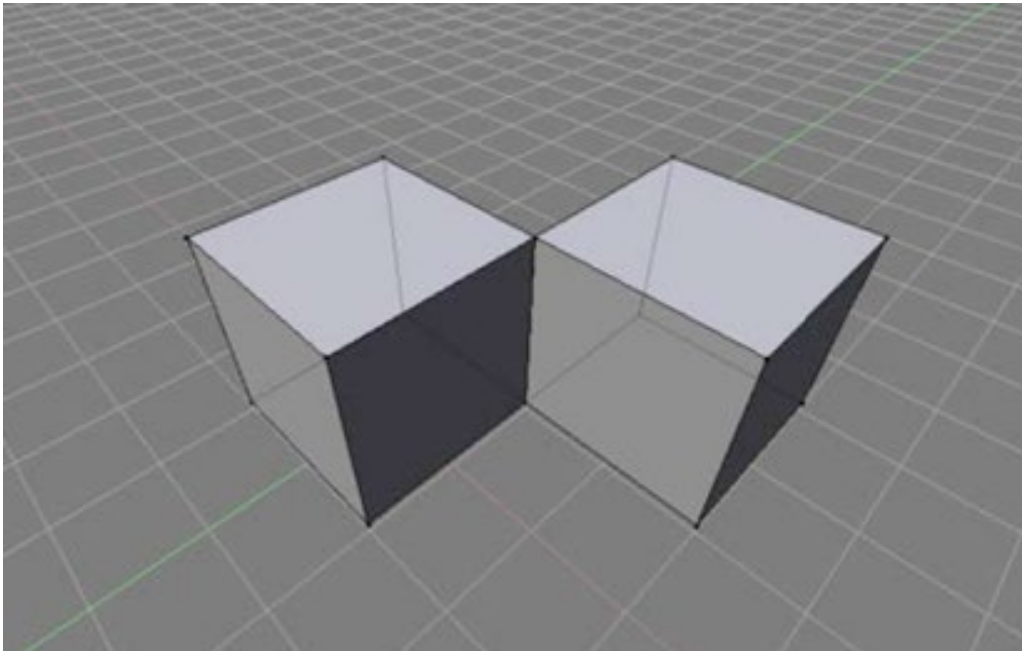

Figure 17. 3D cubes with one common edge.
2. Objects must be manifold: The full definition of manifold is quite mathematic. For our purposes, a mesh will become non-manifold if it has edges that are shared between more than two faces (see Figure 17. **3D cubes with one common edge**).